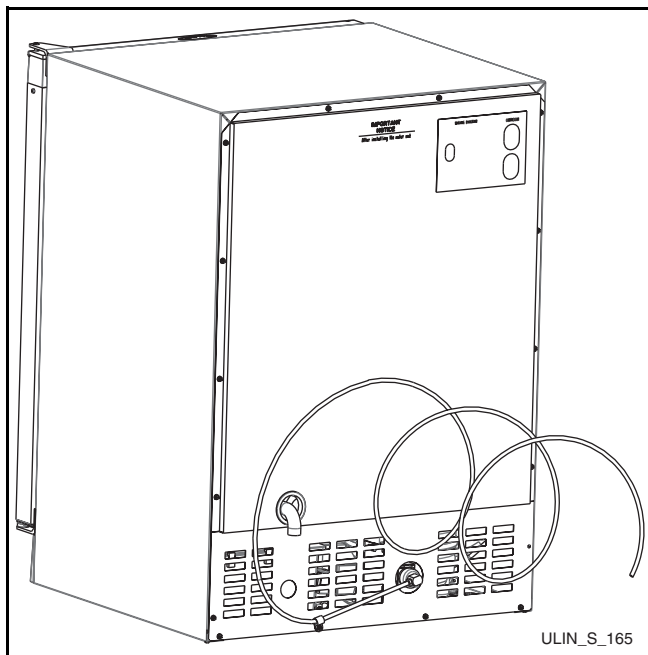

Figure 69
1. Locate the desired cold water supply location. Attach a 1/4" copper line to this location and route the tubing to the appliance. Leave approximately 8' of water line to be coiled behind the appliance as shown (**Figure 69**). This water line should be looped into 2 coils. This will allow the line to flex when moving the appliance in and out of the opening.